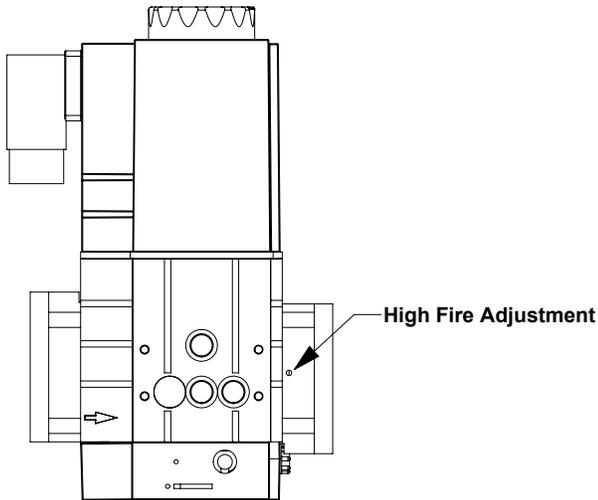

Figure 26: Gas Valve Air-to-Fuel Adjustment
- d. If high fire O₂ is too high (CO₂ is too low), decrease O₂ (increase CO₂) by turning the adjustment screw towards the "Plus (+)" sign in 1/4 turn increments and checking the O₂ (or CO₂) after each adjustment. Refer to Figure 26 for location of throttle screw. Verify CO air free is less than 200 ppm.